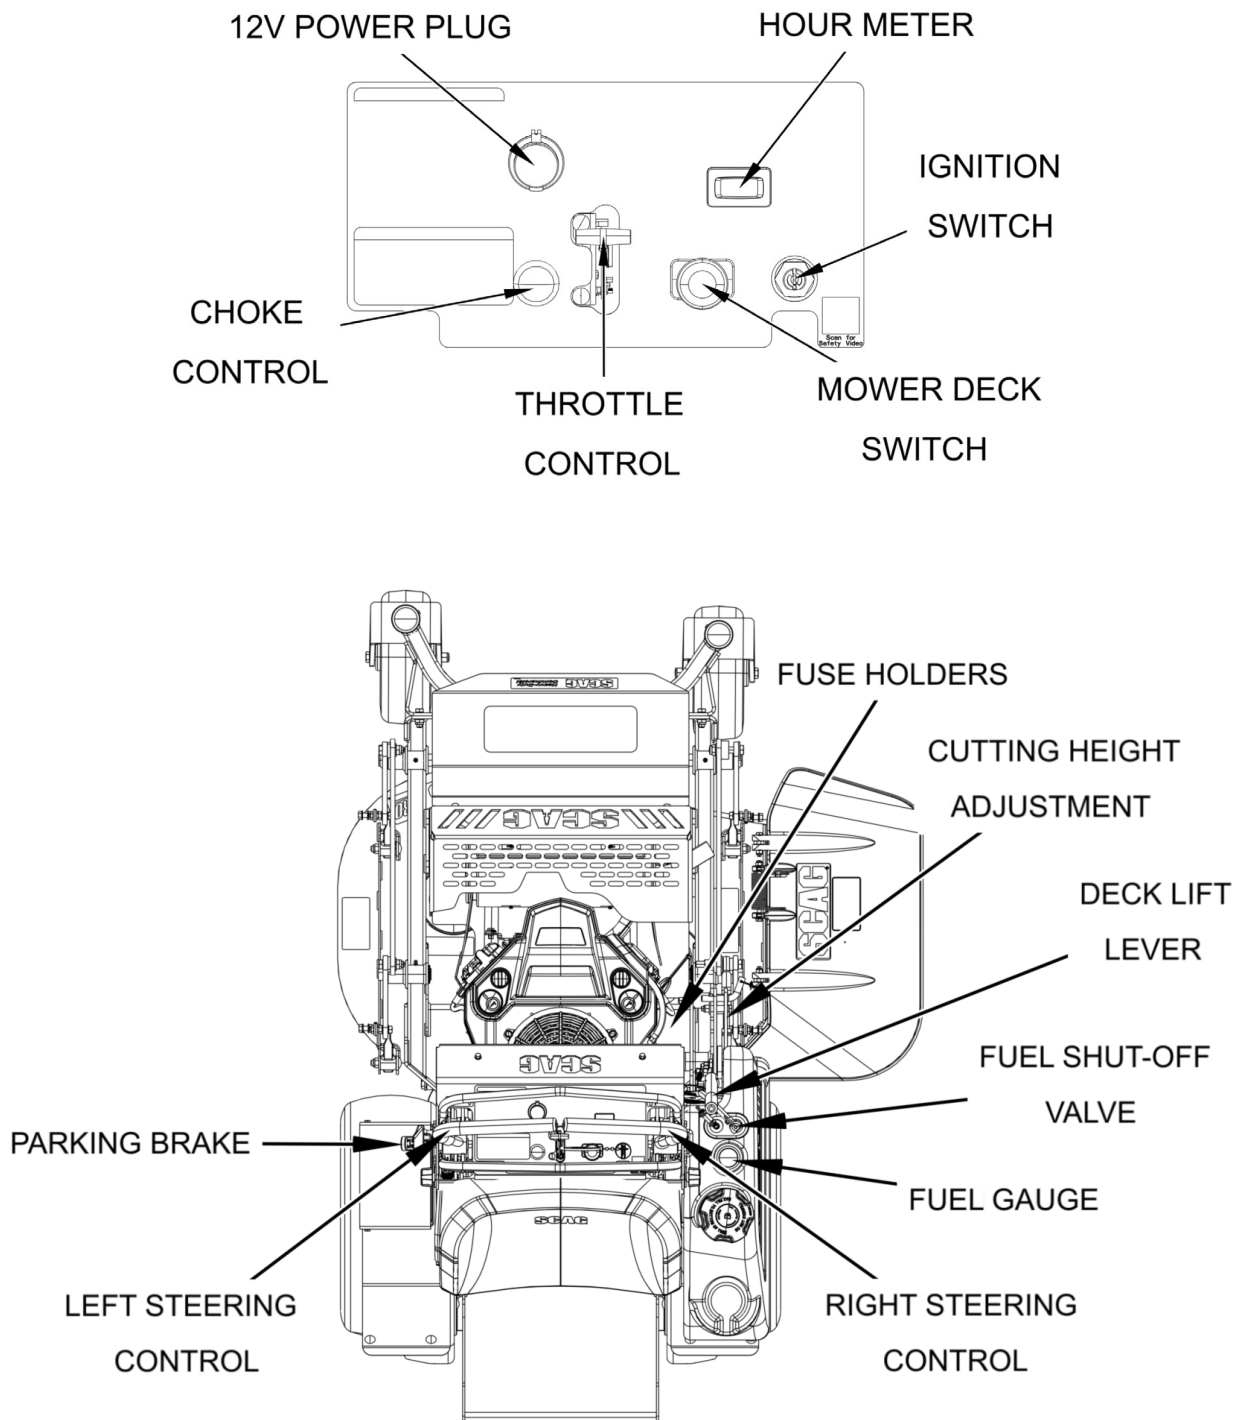
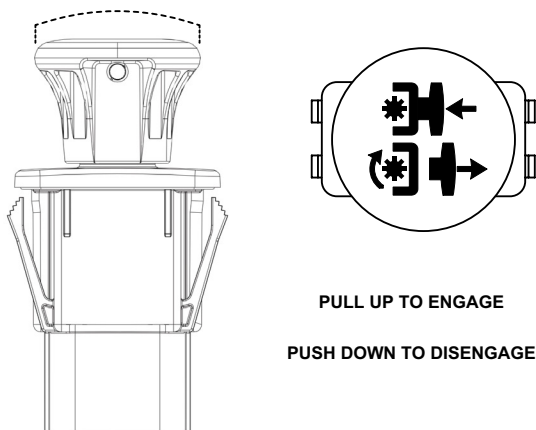

Figure 4-2. Controls and Instruments
Figure 4-5. PTO Switch Function
- 1. Ignition Switch (Figure 4-2):** The ignition switch is used to start the engine and has three positions: OFF, ON, and START.
- 2. Engine Choke Control (Figure 4-2):** Controls the air pressure in the intake manifold. Only use when starting a cold engine.
- 3. Engine Throttle Control (Figure 4-2):** Controls the engine speed. Pushing the lever forward increases the engine speed. Pulling the lever back decreases the engine speed. The furthest back position of the lever is the IDLE position. The furthest forward position of the lever is the cutting position.
- 4. Mower Deck Switch (Figure 4-2):** Engages and disengages the mower deck drive system. Pulling the switch up will engage the deck drive. Pushing the switch down will disengage the deck drive.
- 5. Inductive Hour Meter (Figure 4-2):** Indicates the number of hours the machine has been operated for.
- 6. 12V Power Plug (Figure 4-2):** An additional power supply for all your worksite needs.
- 7. Fuse Holders (Figure 4-2):** Two 20-amp fuses protect the electrical system of the machine. Pull a fuse out of the socket to replace.
- 8. Left Steering Control (Figure 4-2):** Controls power to the left wheel. See Section 4.5 for further information regarding ground travel and steering.
- 9. Right Steering Control (Figure 4-2):** Controls power to the right wheel. See Section 4.5 for further information regarding ground travel and steering.
- 10. Parking Brake Lever (Figure 4-2):** Engages and disengages the parking brakes while locking the steering levers in the neutral position. Move the lever back to engage the parking brake. Move the lever forward to disengage the parking brakes.
- 11. Cutter Deck Lift Lever (Figure 4-2):** Raises and lowers the cutter deck.
- 12. Cutting Height Adjustment (Figure 4-2):** Sets the cutter deck at the desired cutting height.
- 13. Fuel Gauge (Figure 4-2):** Indicates the amount of fuel in the fuel tank.
- 14. Fuel Shut-Off Valve (Figure 4-2):** Controls the fuel supply to the engine. Located on top of the fuel tank. Rotate counterclockwise to supply fuel to the engine. Rotate clockwise to shut off the fuel supply to the engine.
2. Engage the cutter deck drive by pulling the yellow PTO switch, located on the instrument panel, up. See Figure 4-2 and Figure 4-5.